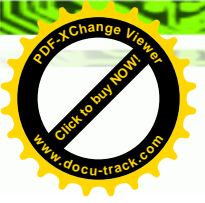

**Figure 5-1: Chipset Driver Screen**
**Step 4:** The setup files are extracted as shown in **Figure 5-1**.